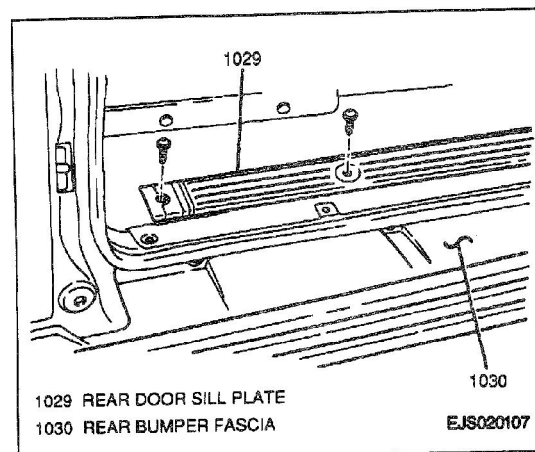

Figure 10—Rear Door Sill Plate
3. Four screws and rear door sill plate from vehicle (Figure 10).
2. Rear door sill plate to vehicle; secure with four screws (Figure 10).